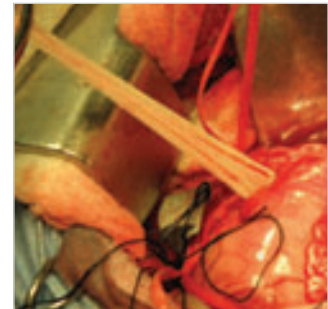

Fig. 4: Forceps grasping the elastic leader to guide the liner around the vessel.
3. Using curved right angle forceps under the vessel, grasp the elastic tubing leader and gently guide the liner around the vessel (Fig. 4). Use the elasticity of the tube to draw the liner and allow the tissues to ease over the larger corners of the liner.